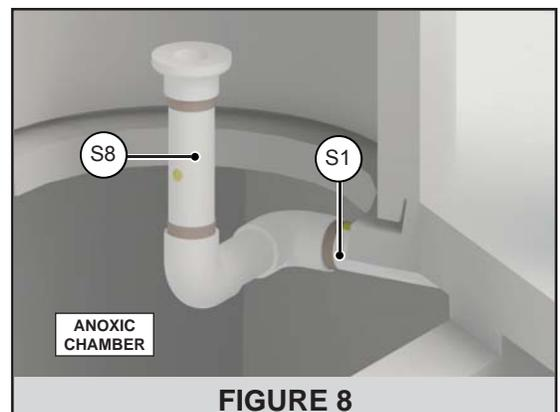

FIGURE 8
7. Solvent weld subassembly S1 to subassembly S8 (S1 was installed with the Tank Equipment Package) with union facing up as shown in Figure 8.